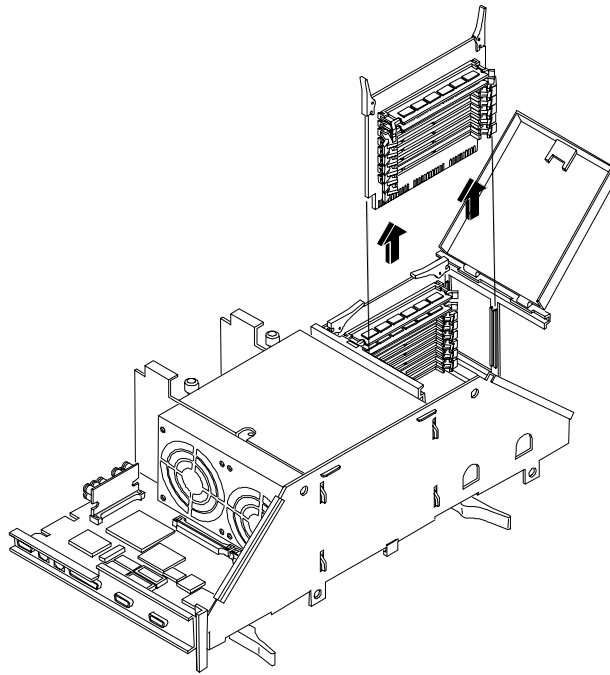

Figure 5-6. Removing Memory Boards
5. Unseat each memory board with the release clips, and remove the two boards (see Figure 5-6).